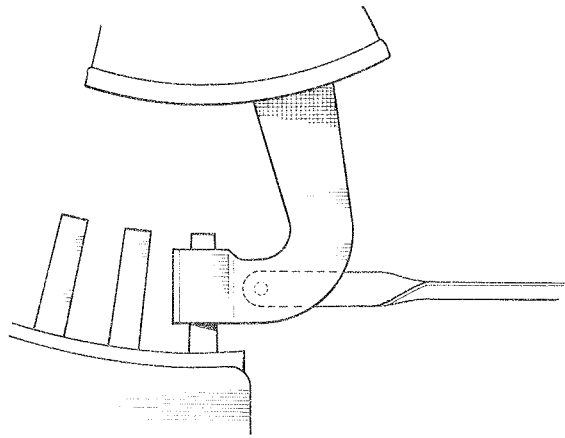

FIG. 23
16.3 Wiper Tension When the wipers are standing on the 25th bank contacts, they should exert a pressure of 30 ± 10 gm on the bank contacts. To check this, insert the gauge so that the pointer tip engages a point just in front of angular set of the wiper, and as near as possible at the middle of the wiper blade (see Fig 23). If readjustment is necessary, tension the wipers to exert a pressure of 30 ± 5 gm.